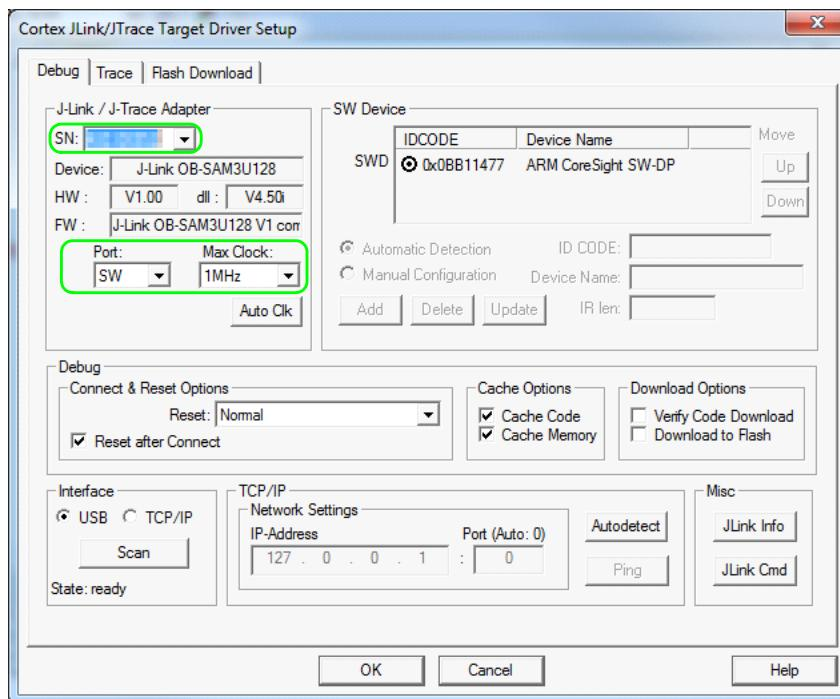

Figure 38 Debug settings
- Click the **Debug** tab. Set Port to **SW** and Max Clock to **1 MHz**. Make sure that **SN** and **IDCODE** are populated as seen in *Figure 38* and click **OK**.